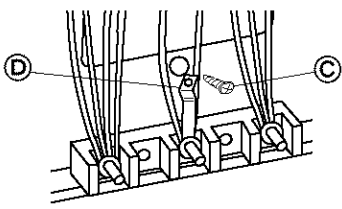

Figure 1
8. Remove the ground-link screw © from the range frame. Save the ground-link screw. Bend up the ground link © so that it does not contact the range. See Figure 1.